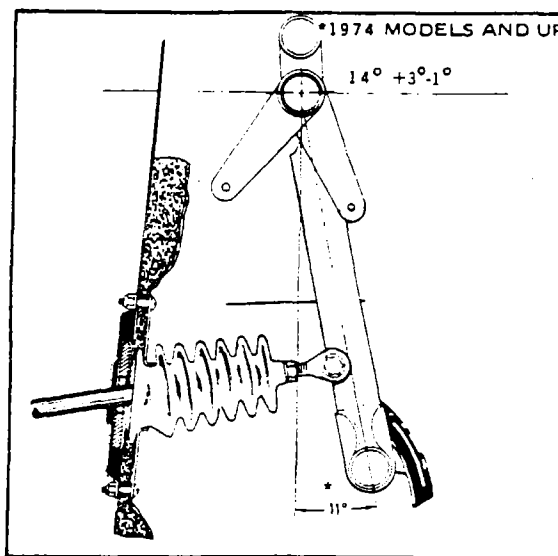

Figure 6-4. Rudder Pedals at Neutral Angle
- g. Adjust the rod end bearings of each steering control rod (on 1974 models and up, adjust rod end bearings on bungee assembly) to align the nose wheel with the chalk line and to bring the rudder pedals into neutral angle fore and aft. To align the nose wheel straight forward, stand in front of the nose gear and align the center rib of the tire with the chalk line or lay a straightedge along the side of the tire and parallel the straightedge with the chalk line. With the aircraft level, the neutral angle of the rudder pedal is 11 degrees (14 degrees on 1974 models and up) aft of the vertical line. Place a bubble protractor against a pedal steering tube to check this angle. (Refer to Figure 6-4.) One end of each rod must be disconnected and jam nuts loosened to make this adjustment, but do not attempt to make the adjustment by means of one bearing, but divide the adjustment between the bearings at each end of each rod. Check that rod ends have sufficient thread engagement by ascertaining that a wire will not go through the check hole in the rod. (Rods without check holes maintain a minimum of three-eighths of an inch thread engagement.) Reinstall rods; safety and tighten jam nuts.